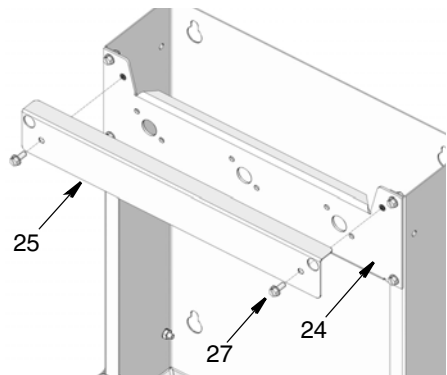

FIG. 7
4. Connect cover panel plate (25) to meter mounting plate (24) using screws (27) and existing holes. Tighten screws securely. Refer to FIG. 7 for the correct installation orientation for these parts.